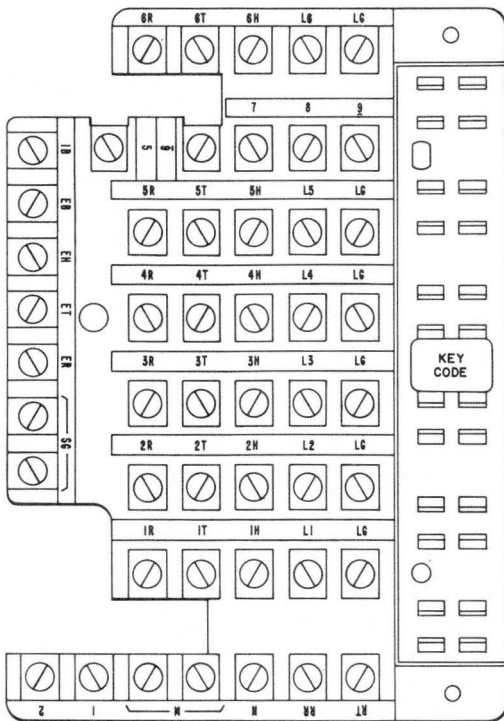

Fig. 3—Terminal Board for the 636B Key
2.25 The 589Y and 636A use 814319836 (P-43A983) terminal board (Fig. 2). The 636B uses the 814454005 (P-44E400) terminal board (Fig. 3).